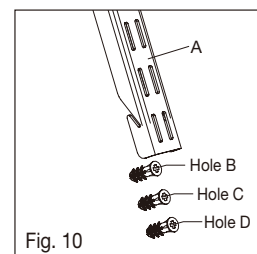

Fig. 10
- ☐ Drill 1/4 in. holes and insert wall anchors (1/4 in.) into hole B, C and D (see Fig. 10).